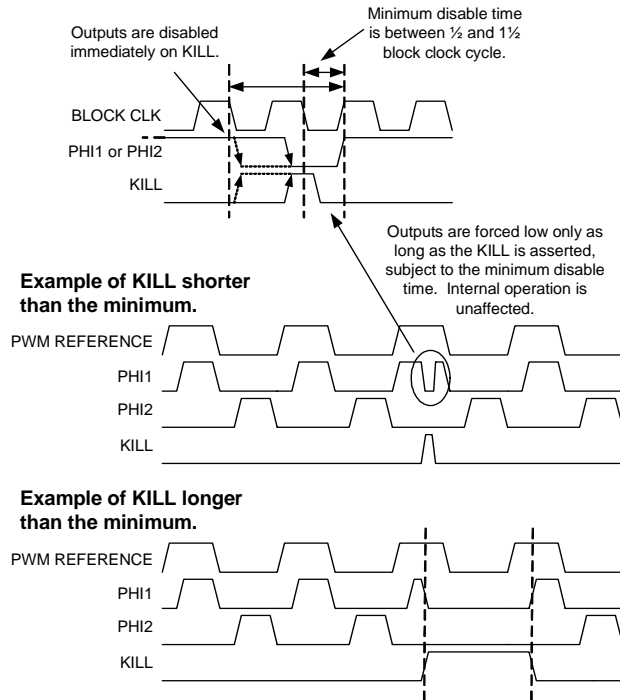

Figure 17-13. Asynchronous Restart Kill Mode
- 2. Asynchronous Restart Mode:** When KILL is asserted high, internal state is not affected. When KILL is negated, outputs are restored, subject to a minimum disable time between one-half and one and one-half clock cycle. See Figure 17-13.